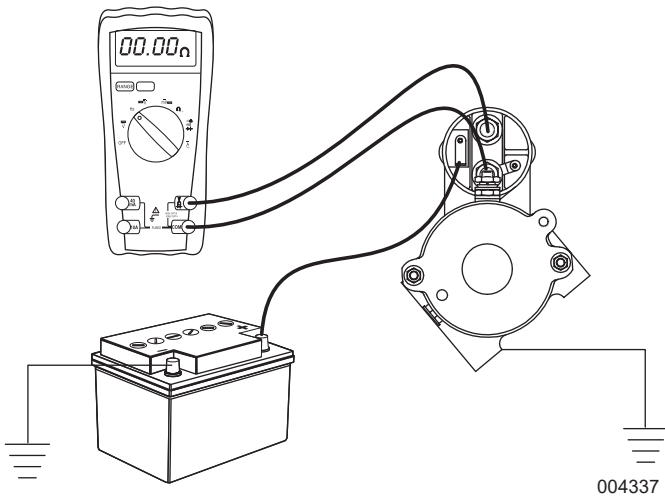

Figure 10-3. Test Starter Solenoid
8. See Figure 10-3. Attach one DMM test lead to each stud terminal on starter solenoid.